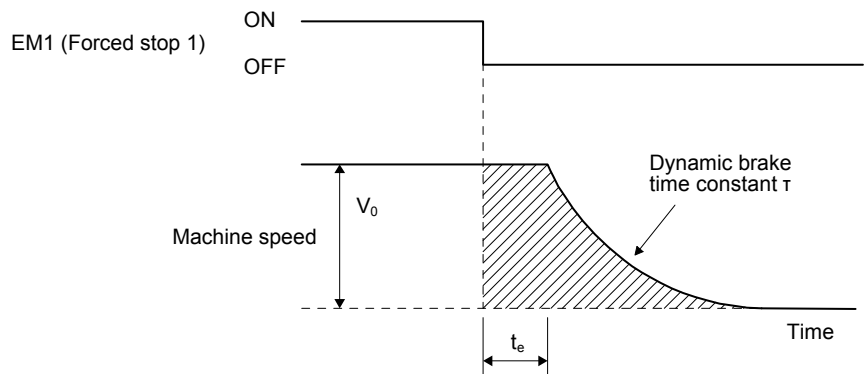

Fig. 10.3 Dynamic brake operation diagram
Fig. 10.3 shows the pattern in which the servo motor comes to a stop when the dynamic brake is operated. Use equation 10.2 to calculate an approximate coasting distance to a stop. The dynamic brake time constant  $\tau$  varies with the servo motor and machine operation speeds. (Refer to (2) of this section.)